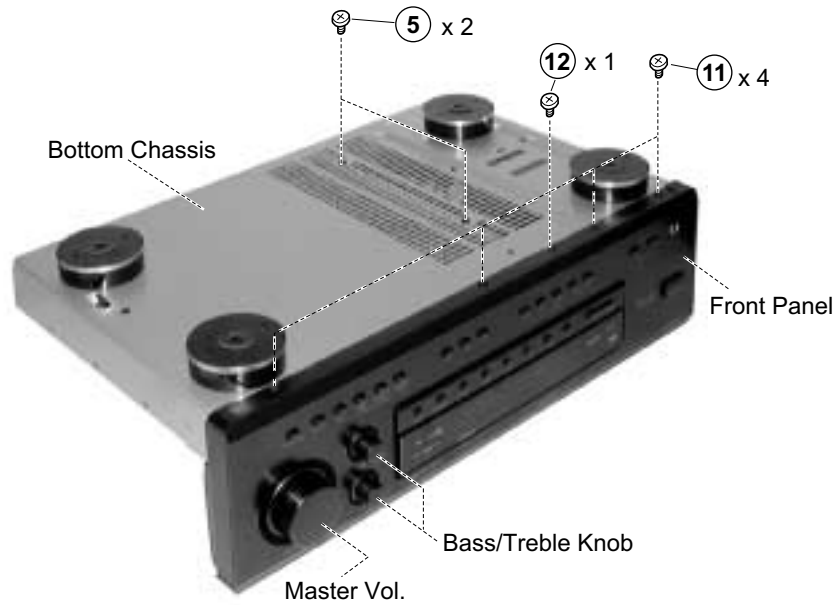

Fig. 5
- (a) Invert the Bottom Chassis, remove 2 screws 5 connect to the heat sink. (Fig. 5)
(a) Release the inner panel from the Bottom Chassis by remove 1 screw # (Fig. 5) and 2 screws \$.